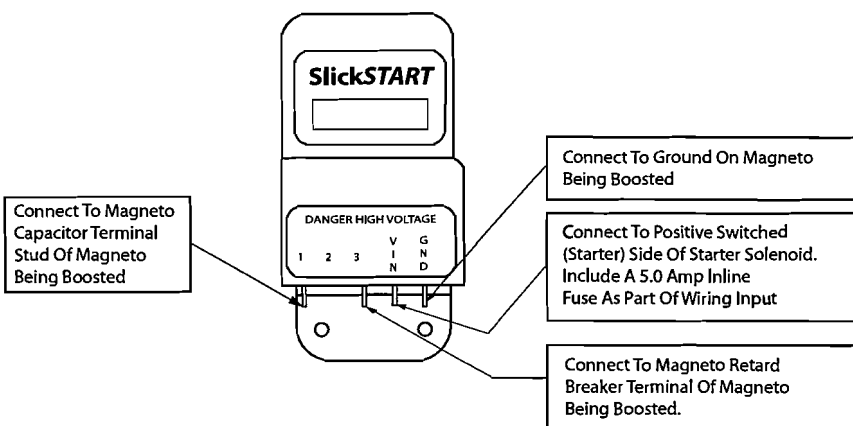

Figure 5
C. To replace **starting vibrators** when the engine will be started using two boosted retard breaker magnetos with two SlickSTARTs™ (refer to Figure 5):